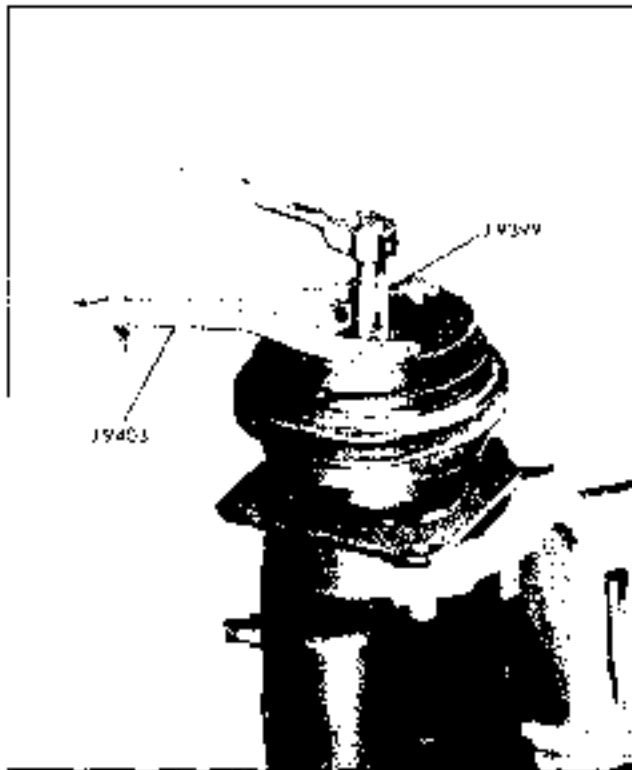

Fig. 1A-4 Removing Hub and Drive Plate Lock Nut
1. Insert square drive key into hub of drive plate so it projects approximately 3/16" out of end of keyway (Fig. 1A-7). Wedge into keyway with blunt tool.